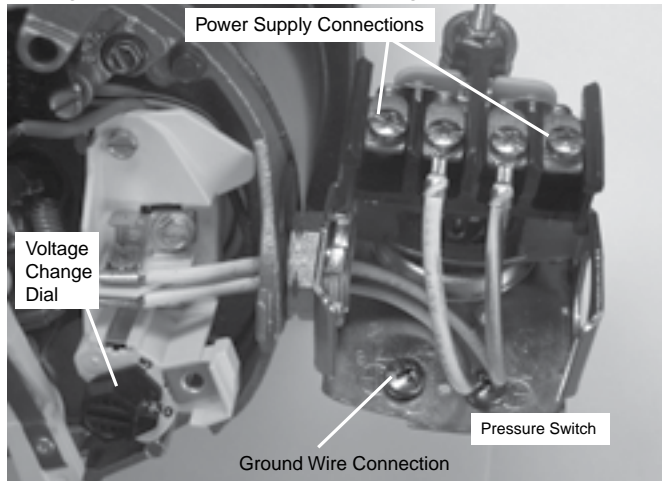

Figure 4: Voltage set to 230 volts, Dial Type
3. Attach the incoming power leads to the two outer screws on the pressure switch as shown in Figure 4.
4. Attach the ground wire to the grounding connections as shown in Figure 4.
1. Connect the ground wire first as shown in Figure 4. The ground wire must be a solid copper wire at least as large as the power supply wires.
4. Connect the power supply wires to the pressure switch as shown in Figure 4.